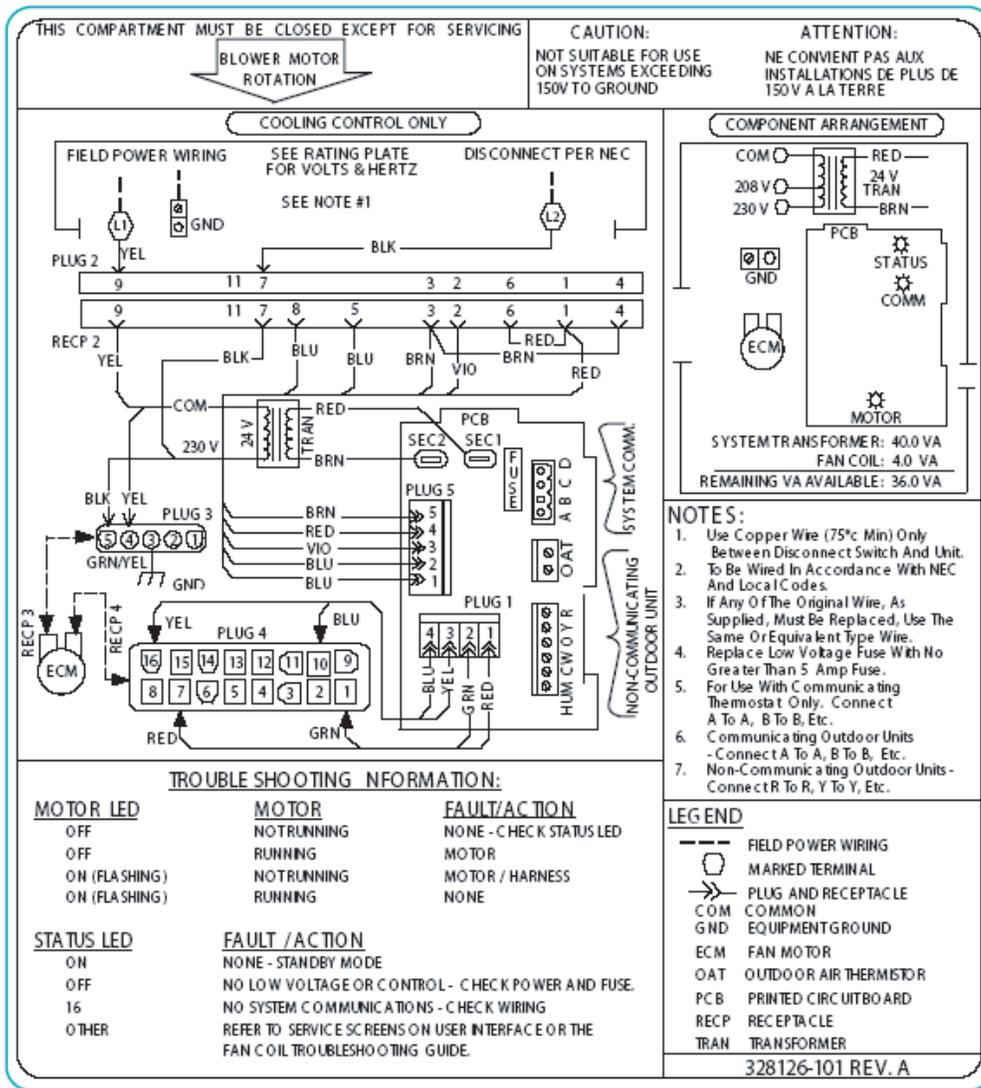

Fig. 17 - Typical FE4 Wiring Diagram
3. Check 12 Vdc low voltage supply to motor at pins 1 (+) and 2 (-) of motor header connection to fan coil control. See wiring diagram Fig. 17.